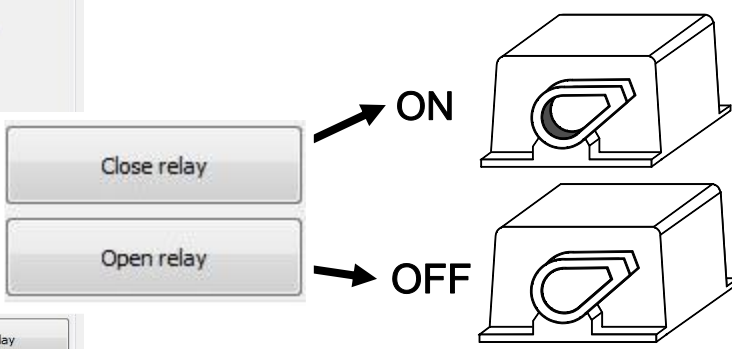

Figure 7-6: Buttons for closing and opening the relay
- 2 Enter on the MasterBus control panel the MasterBus MLi Ultra monitoring page. Operate the Close Relay button at the bottom of this page. If the relay is closed (On), the knob position must be shifted inwards. See figure 7-6.